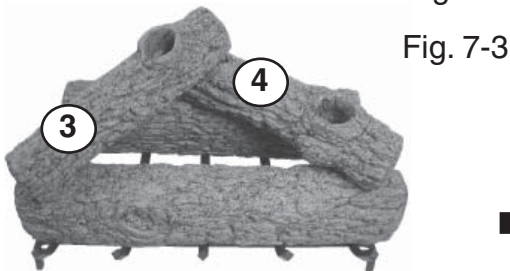

Fig. 7-3
3. Top logs should be stacked diagonally, with the largest at the bottom (Fig. 7-3, #3 & 4), and with spaces between the logs so that the flames are not choked off. Place the smaller logs diagonally across the larger ones (see Fig. 7-4, #5 & #6). The top logs may be moved to achieve desired flame pattern. Some carbon buildup (sooting) may occur where the flames impinge on the logs and should not be a concern unless excessive. If sooting is excessive, rearrange the top logs to reduce flame impingement. Examples of log stacks are shown below.